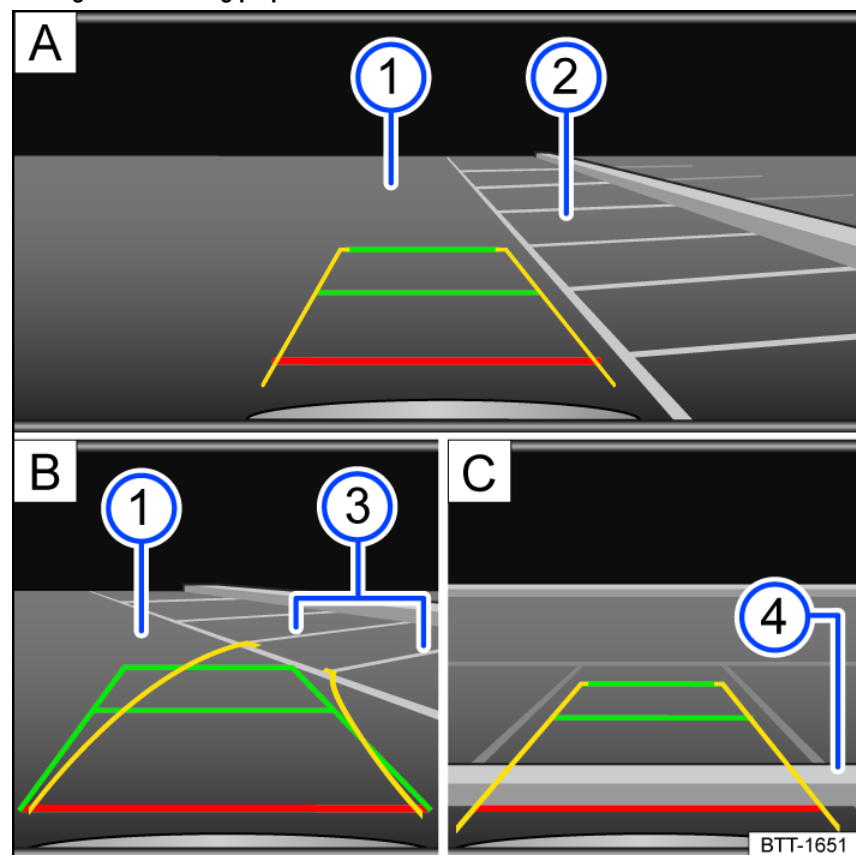

Fig. 151 Infotainment system: Parking perpendicular to the road.
① Road surface.
② Parking space.
③ Side boundary of the parking space.
④ Rear boundary of the parking space.
3. Position your vehicle in front of the parking space *fig. 151 A* ②.
4. Steer so that the yellow lines lead into the parking space. The green and yellow lines must align with the side boundary lines *fig. 151 B* ③.
5. Stop when the red line reaches the rear boundary *fig. 151 C* ④.